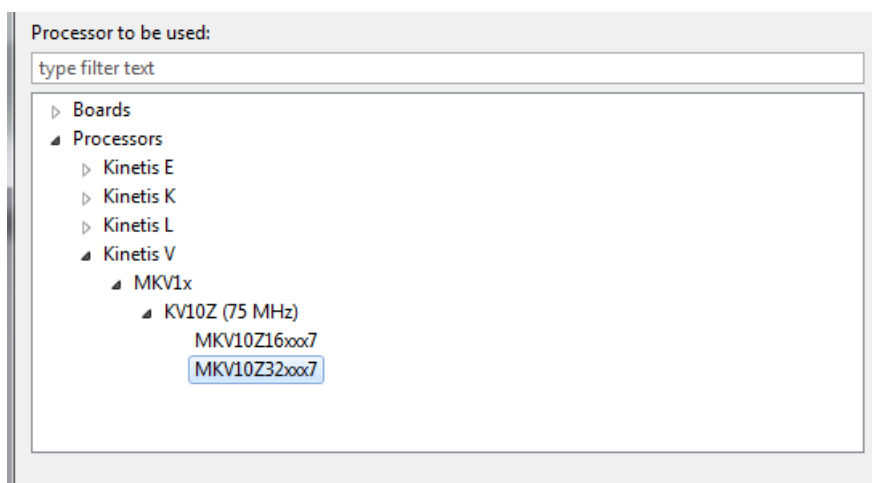

Figure 1-2. Processor selection
5. Expand the tree by clicking Processors, then Kinetis V > MKV1x > KV10Z, and click MKV10Z32xxx7. Click Finish. See Figure 1-2.